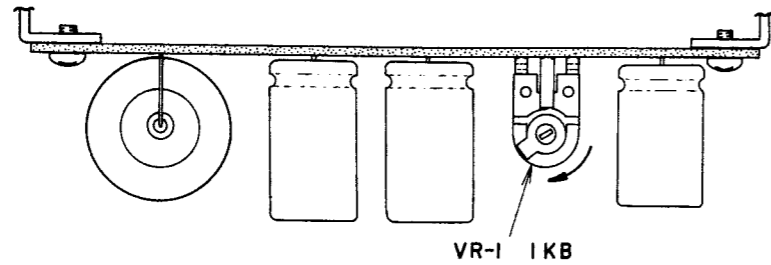

Fig. 21 Power Supply P.C Board TY-2003
1. DC POWER SUPPLY VOLTAGE ADJUSTMENT (Refer to Fig. 21)